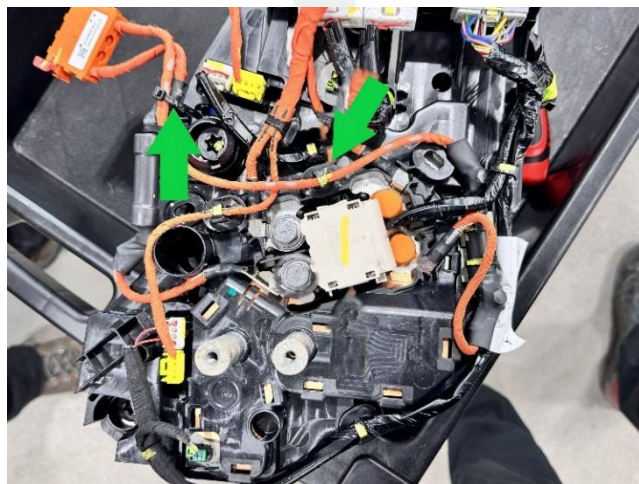

Figure 2
2. Release the clips (x2) that attach the AC junction box to fast charge contactor HV harness to the vehicle (Figure 2).
**NOTE:** Install a new zip tie as needed (Figure 2).